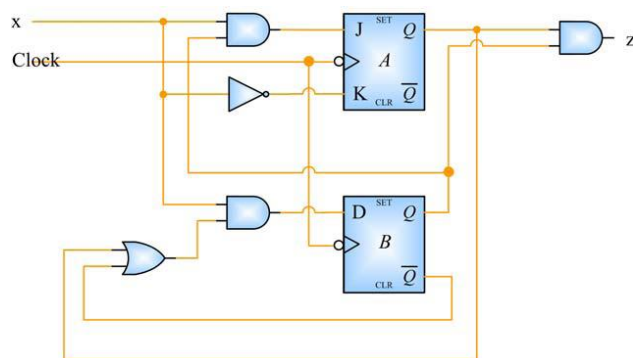

Figure 8: Moore Machine Circuit Implementation for Sequence Detector.
- The circuit diagram for Moore machine circuit implementation is shown in Figure 8.